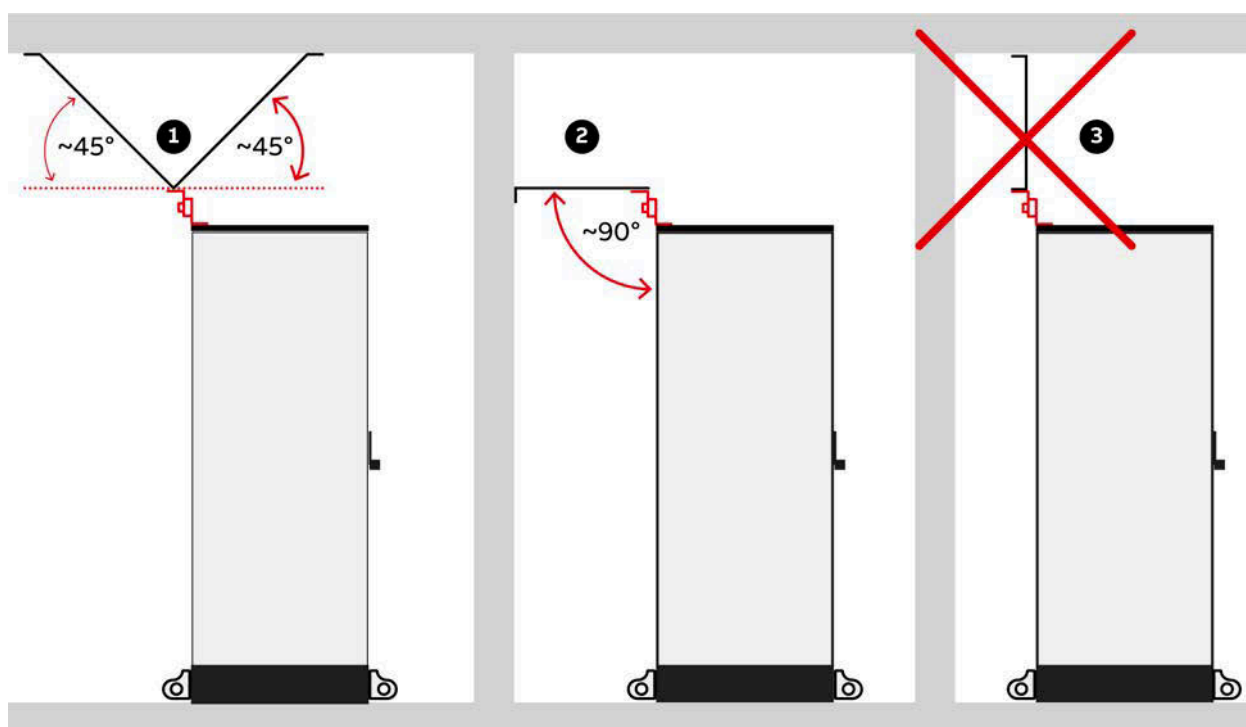

Figure 5–25 Recommended ceiling and wall fixings
**WARNING!** DO NOT install the struts at a 90° angle to the cabinet roof (Fig. 5–25).
4. If you fix the drive to the ceiling, use two struts per roof attachment (1 in Fig. 5–25).
5. If you fix the drive to the back wall, install one strut in a 90° angle to the drive (2 in Fig. 5–25).